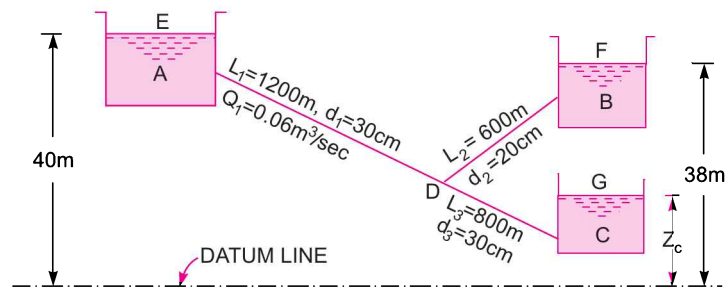

Fig. 11.27
**Problem 11.42** Three reservoirs A, B and C are connected by a pipe system shown in Fig. 11.27. Find the discharge into or from the reservoirs B and C if the rate of flow from reservoirs A is 60 litres/s. Find the height of water level in the reservoir C. Take  $f = .006$  for all pipes.